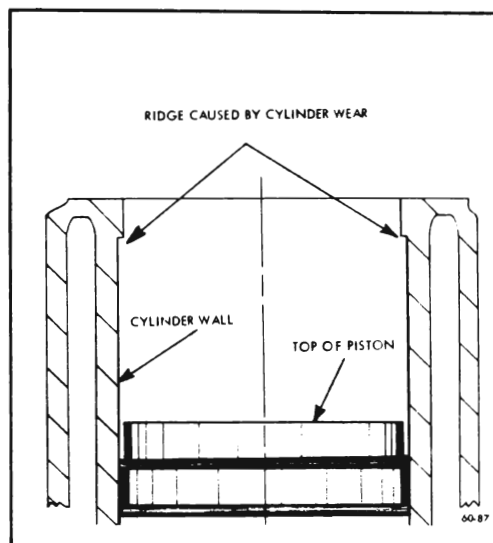

Figure 60-230 Ridge Formed by Rings at Top of Travel
2. Examine the cylinder bores above the ring travel. If bores are worn so that a shoulder or ridge exists at the top of the cylinder, remove the ridges with a ridge reamer to avoid damaging rings or cracking ring lands in pistons during removal. See Figure 60-230.